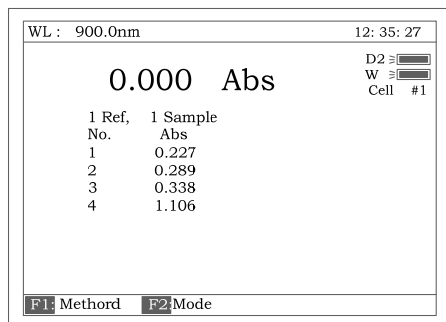

Fig 104
4. Press **[START]**. Automatically the reference is taken in cell No.1, the 4 samples are taken in cell No.2-No.5. The results are displayed as Fig 104.